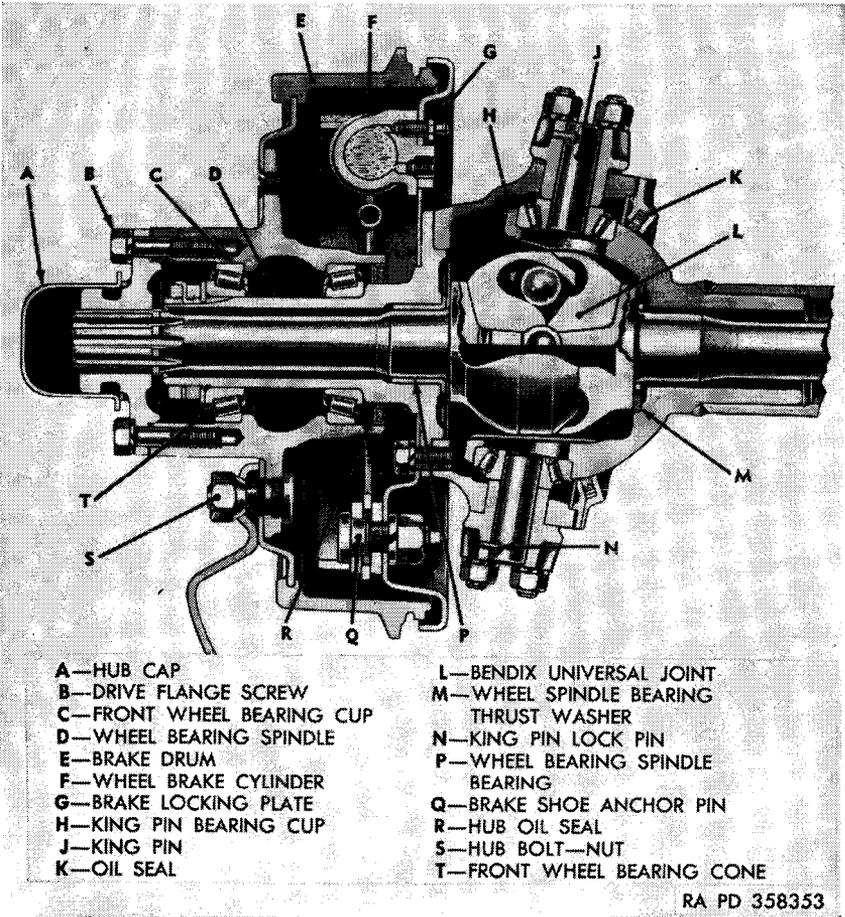
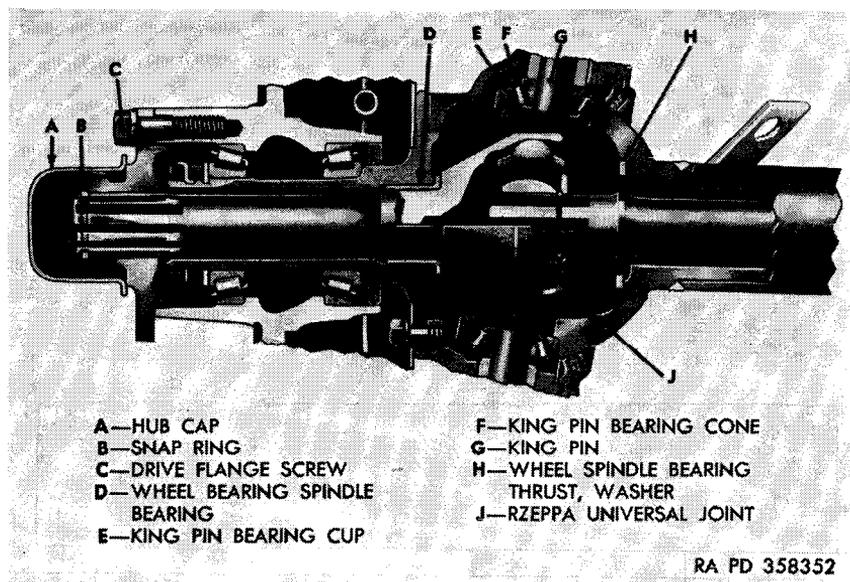

Figure 52. Front axle with Bendix universal joint.
Figure 53. From axle with Rzeppa universal joint.
a. General. Two type of universal joints have been used in the axle shafts on this vehicle: Bendix (fig. 52) and Rzeppa (fig. 53). The basic function is identical with minor differences given in *b* and *c* below. Axles using the different type universal joints are readily identified by a tag attached to the spindle housing.
b. Bendix (fig. 52). The end play of the Bendix joint and the axle shaft is predetermined in manufacture by the position and flange thickness of the wheel bearing spindle bearing (P) and the wheel spindle bearing thrust washer (M). These parts are so positioned, and of the correct thickness, to provide a satisfactory end play of the axle shaft and also to allow the center point of the universal
c. Rzeppa (fig. 53). The end play of the Rzeppa joint axle shaft is also predetermined in manufacture by the position and thickness of the wheel bearing spindle bearing (D) and by using a snap ring (B) at the outer end of the axle shaft. The wheel spindle bearing thrust washer (H) is not effective for use with the Rzeppa shaft, but is placed in all gear carrier housing tubes so that both types of axle shafts may be used. The snap ring (B) and wheel bearing spindle bearing (D) are so positioned, and of the correct thickness, to provide a